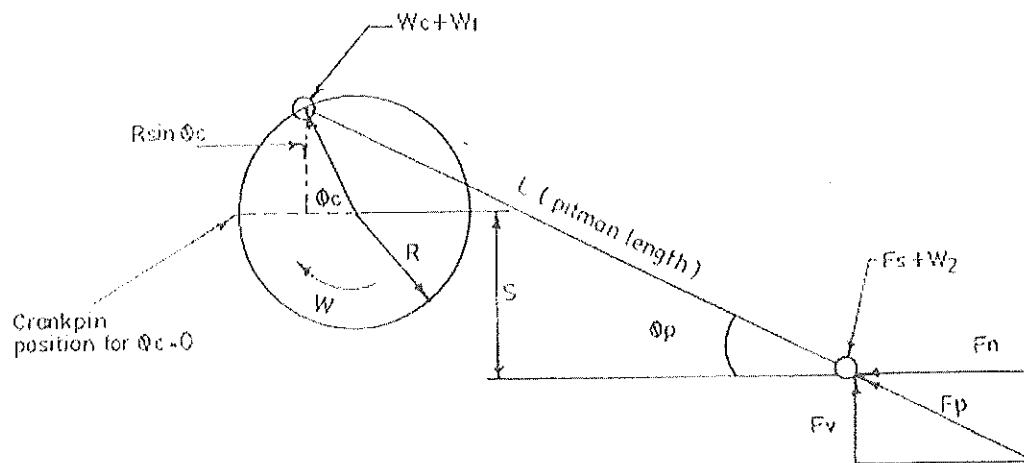

Figure 1: Crank and stroke mechanism
- b) Figure 1 shows the crank and stroke of a reciprocating cutter bar knife of a mower. The information in Table 1 was collected from the cutter of the mower.